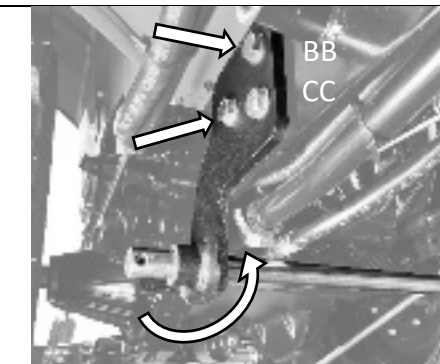

Figure 6A
5. Once the Lift Bar is secure, roll the assembly up and install the remaining bolts BB and nuts CC (figure 6A).